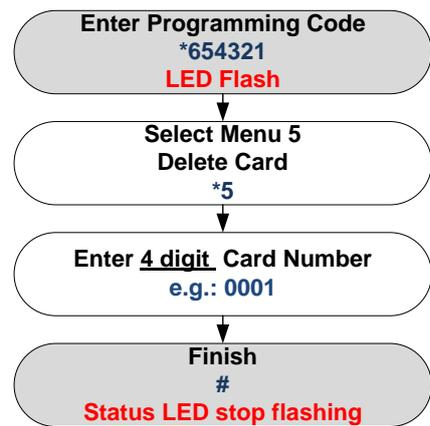

Fig 3.
- Add Single/Block of card(s) following procedure shown in Fig 3.
- Delete Cards follow procedure shown in Fig 3.